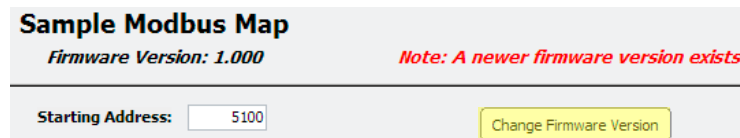
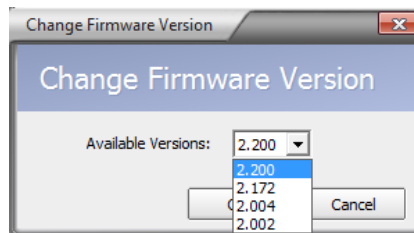

Figure 4.4—Firmware Out-of-date note and location of Change Firmware Version button
Figure 4.5—Change Firmware Version dialog
If the firmware version used to create the map is not the current firmware version, ScanMap will prompt you to update the map to the newer version of firmware, as shown in Figure 4.4. To change the firmware version,
1. Click the **Change Firmware Version** button in the upper right corner of the main screen (Figure 4.4) and select the appropriate firmware version from *Change Firmware Version* dialog (Figure 4.5).